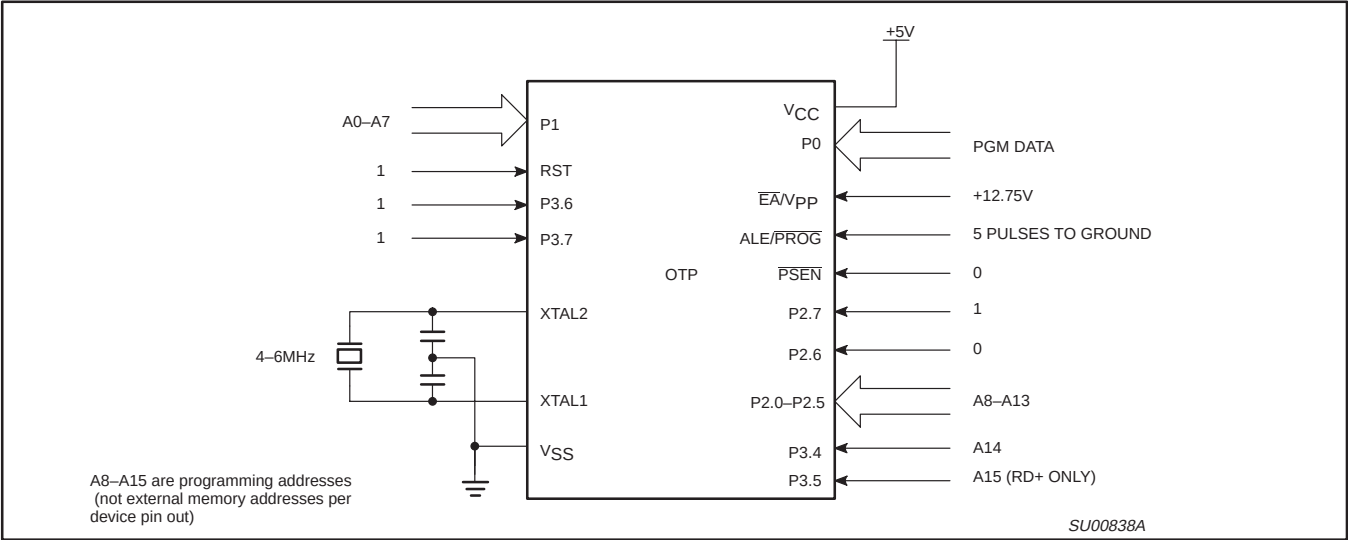
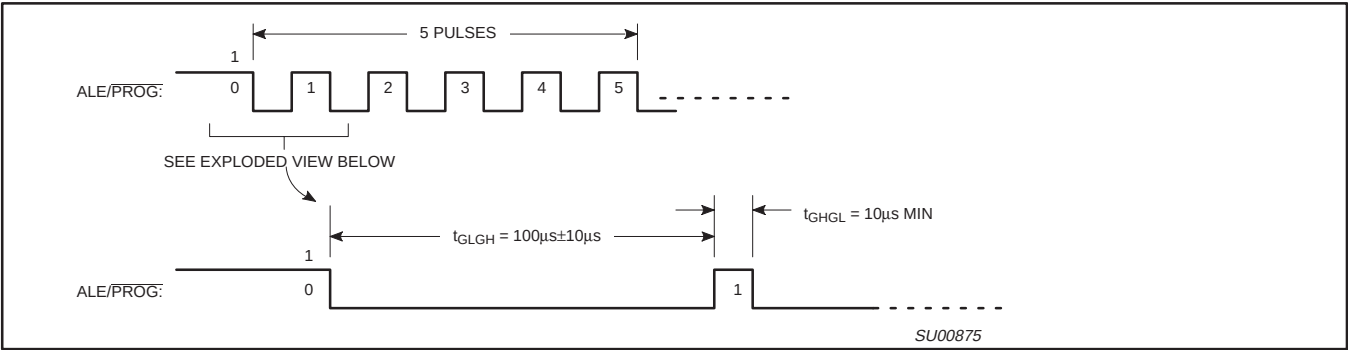
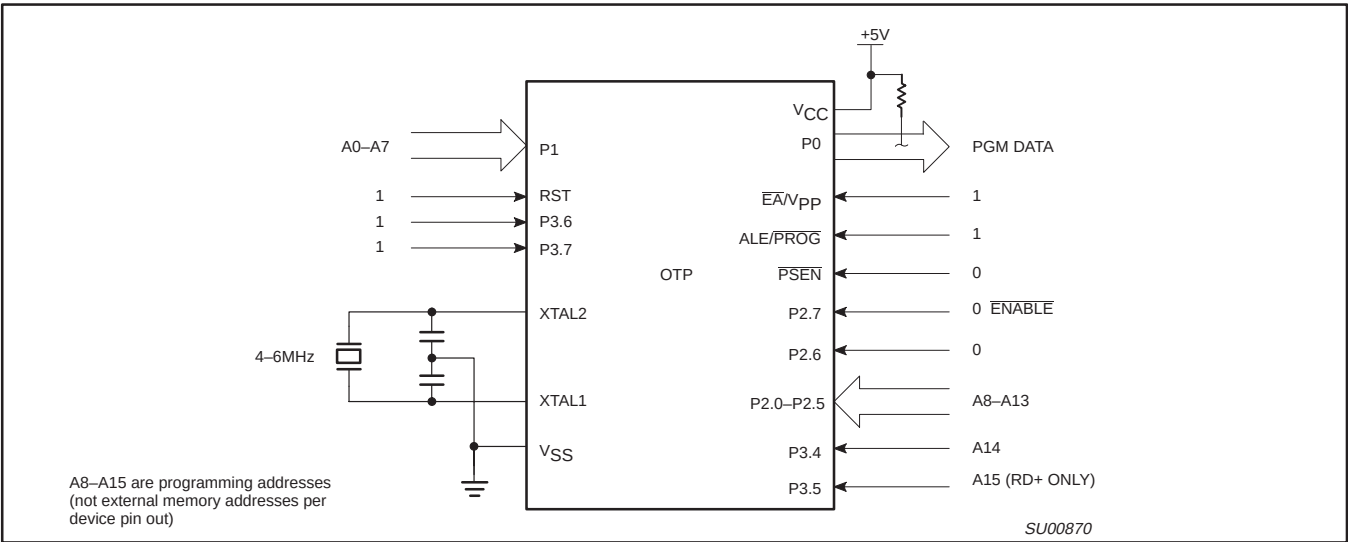

Figure 41. Programming Configuration
Figure 42. PROG Waveform
Figure 43. Program Verification
Table 9 shows the logic levels for reading the signature byte, and for programming the program memory, the encryption table, and the security bits. The circuit configuration and waveforms for quick-pulse programming are shown in Figures 41 and 42. Figure 43 shows the circuit configuration for normal program memory verification.
The setup for microcontroller quick-pulse programming is shown in Figure 41. Note that the device is running with a 4 to 6MHz oscillator. The reason the oscillator needs to be running is that the device is executing internal address and program data transfers.
The address of the EPROM location to be programmed is applied to ports 1 and 2, as shown in Figure 41. The code byte to be programmed into that location is applied to port 0. RST, $\overline{PSEN}$ and pins of ports 2 and 3 specified in Table 9 are held at the 'Program Code Data' levels indicated in Table 9. The ALE/PROG is pulsed low 5 times as shown in Figure 42.
address of the program memory locations to be read is applied to ports 1 and 2 as shown in Figure 43. The other pins are held at the 'Verify Code Data' levels indicated in Table 9. The contents of the address location will be emitted on port 0. External pull-ups are required on port 0 for this operation.
- * FOR PROGRAMMING CONFIGURATION SEE FIGURE 41.
- FOR VERIFICATION CONDITIONS SEE FIGURE 43.